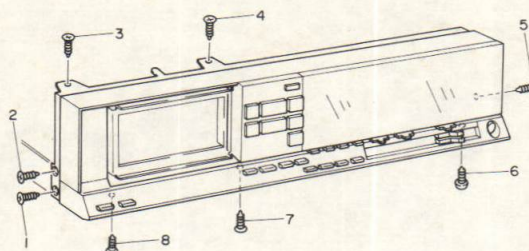

Fig. 4
- 3) Remove 8 screws. (See figure 4)